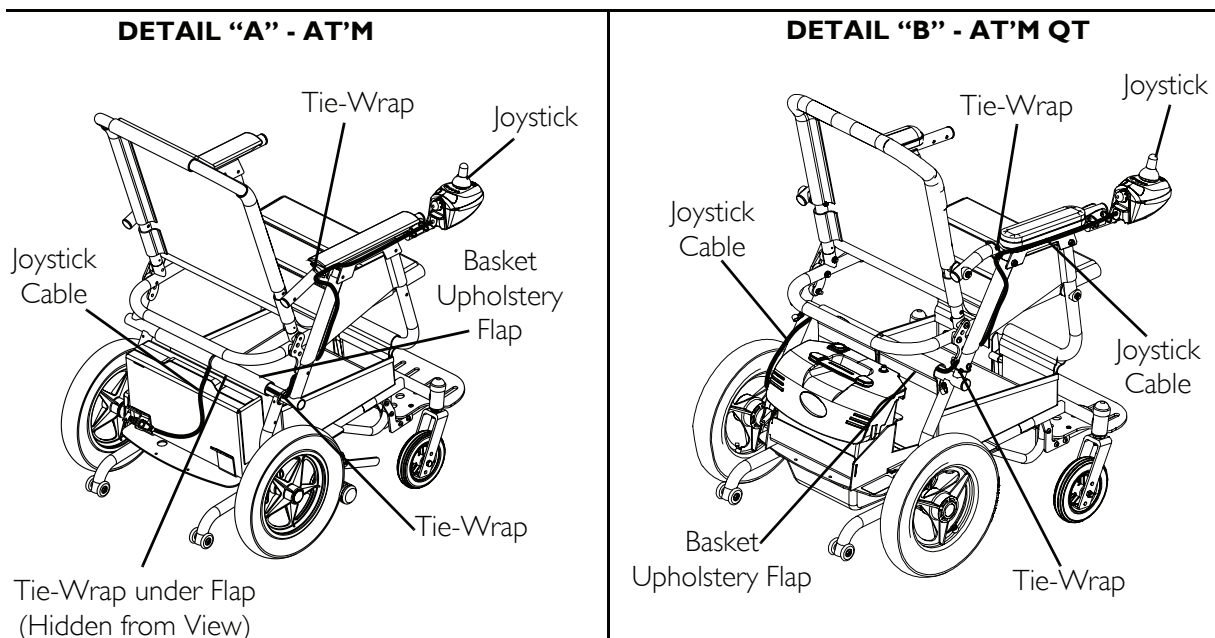

FIGURE 7.2 Repositioning the Joystick
NOTE: For this procedure, refer to FIGURE 7.2.
2. Cut the tie-wraps that secure the joystick cable to the wheelchair arm and frame. Refer to Detail "A" of FIGURE 7.2 for At'm wheelchair and Detail "B" of FIGURE 7.2 for At'm QT.
5. Remove the two (2) quick-release pins that mount the joystick to the arm.
9. Insert the two (2) quick-release pins through the mounting holes to secure the joystick to the arm.
10. Tie wrap the joystick cable to the wheelchair arm and frame as shown in Detail "A" or Detail "B" of FIGURE 7.2.